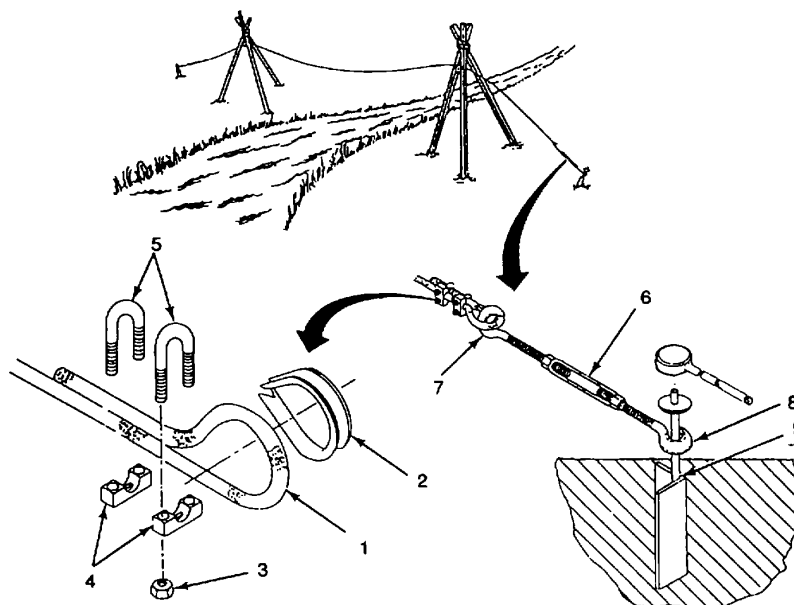

Figure 2-11. Wire Rope Loop
- (3) Hang a pulley block (3) from each tripod (1) and thread wire rope (4) through pulley (3) on near side.
- (4) Using manila rope, pull wire rope (4) across stream or obstruction.
- (5) Thread wire rope (4) through pulley block (3) on far side and remove manila rope.
- (6) Construct loop of wire rope (1, Figure 2-11) about 9 in. (23 cm) from one end of rope and insert thimble (2) into loop.
- (7) Locate two clamp assemblies. Remove two nuts (3) and one clamp (4) from each U-bolt (5).
- (8) Place one U-bolt (5) over doubled portion of wire rope (1) approximately 1/2 in. (1.3 cm) from thimble (2).
- (9) Install one damp (4) onto one U-bolt (5) using nuts (3). Tighten nuts (3) until doubled portion of wire rope (1) is held firmly together.
- (10) Place second U-bolt (5) over doubled portion of wire rope (1), approximately 4 in. (10 cm) down from first damp.
- (11) Install damp (4) using two nuts (3). Tighten nuts (3) until doubled portion of wire rope is held firmly together.
- (12) Unscrew turnbuckle (6) until it is almost fully extended. This will allow for adjustment to take up wire rope sag.